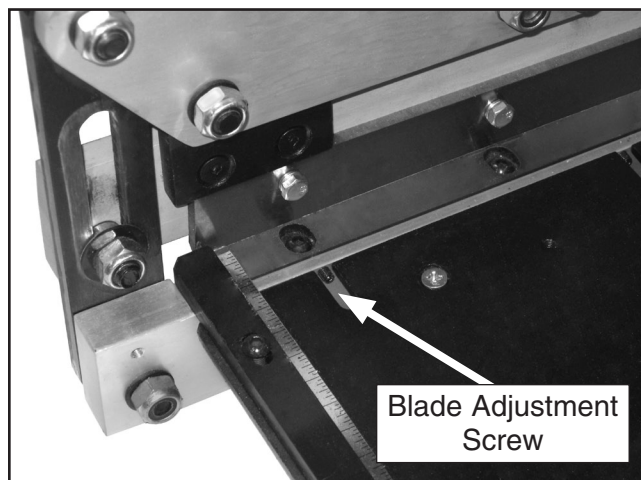

Figure 8. Adjustment screw.
3. Use a ball head 3mm hex wrench to adjust the blade adjustment screws to fine-tune the position of the fixed blade (**Figure 8**).